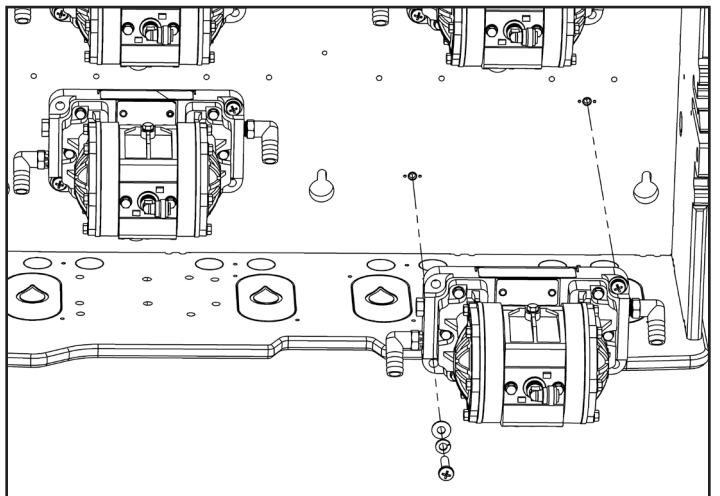

Fig. 6.2: Installing Graco pumps
2. Using the included machine screws and washers, install the Graco pumps to the back panel of the enclosure using the pre-installed t-nuts for each pump [Figure 6.2].